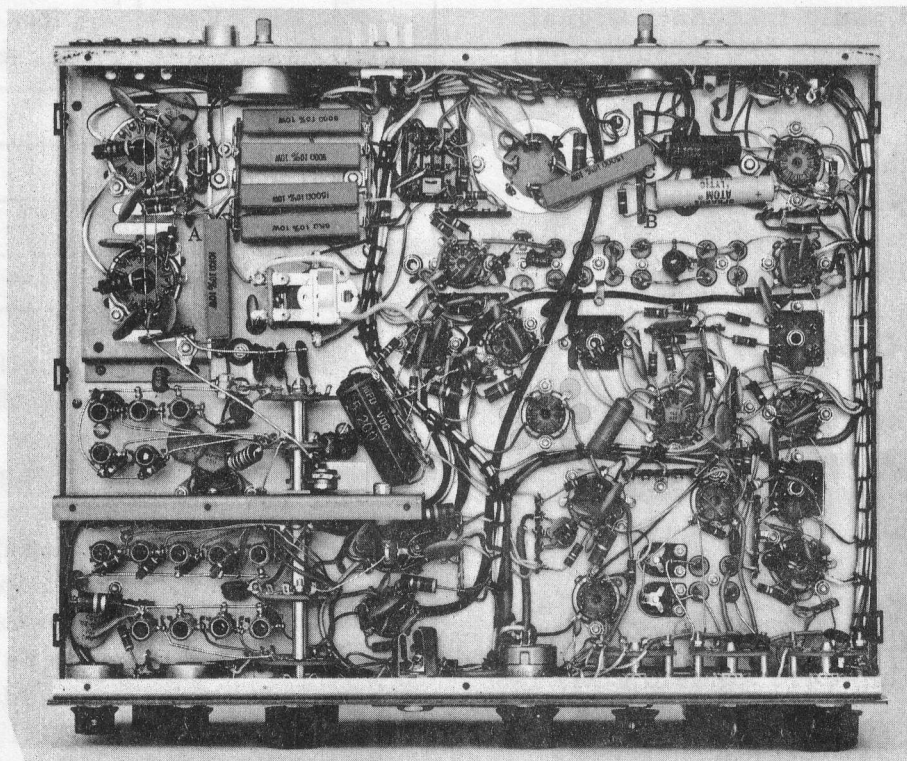

FIGURE 5 BOTTOM VIEW, MODEL 400 TRANSCEIVER
1. Remove screen voltage from V4 and V5 by disconnecting orange wire to terminal strip immediately adjacent to V5 base. (Pt. A in Fig. 5.)
2. Connect VTVM across R412, 4.7K resistor between pins 1 and 2 of terminal strip immediately behind bifilar coil in crystal filter, range -15 volt scale. (Points B and C in Fig. 5).